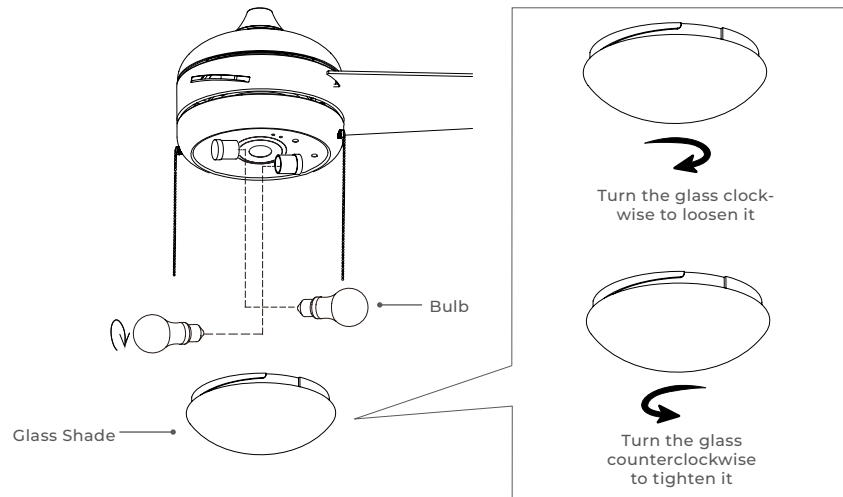

FIGURE 11
**B)** Place the glass shade onto the light kit and rotate till secure (Figure 11).